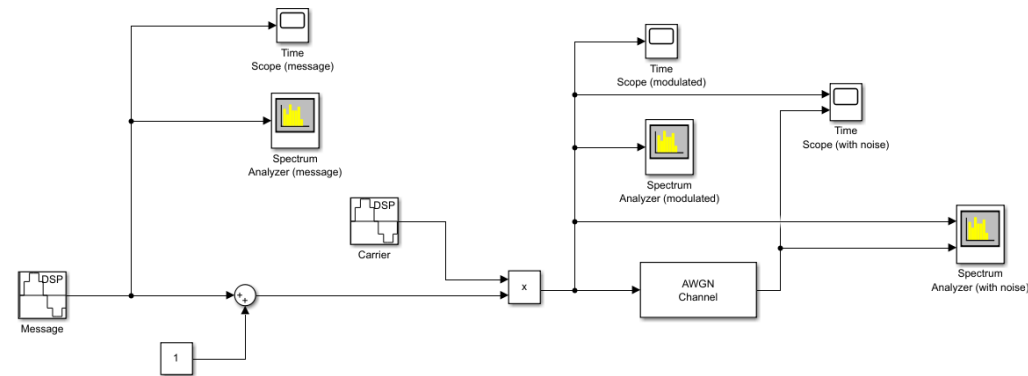

Figure 23: AWGN channel with scope & spectrum analyzer
3. Connect a scope and spectrum analyzer to before the AWGN Channel and after the AWGN Channel. Your model should now look like the model in Figure 23.